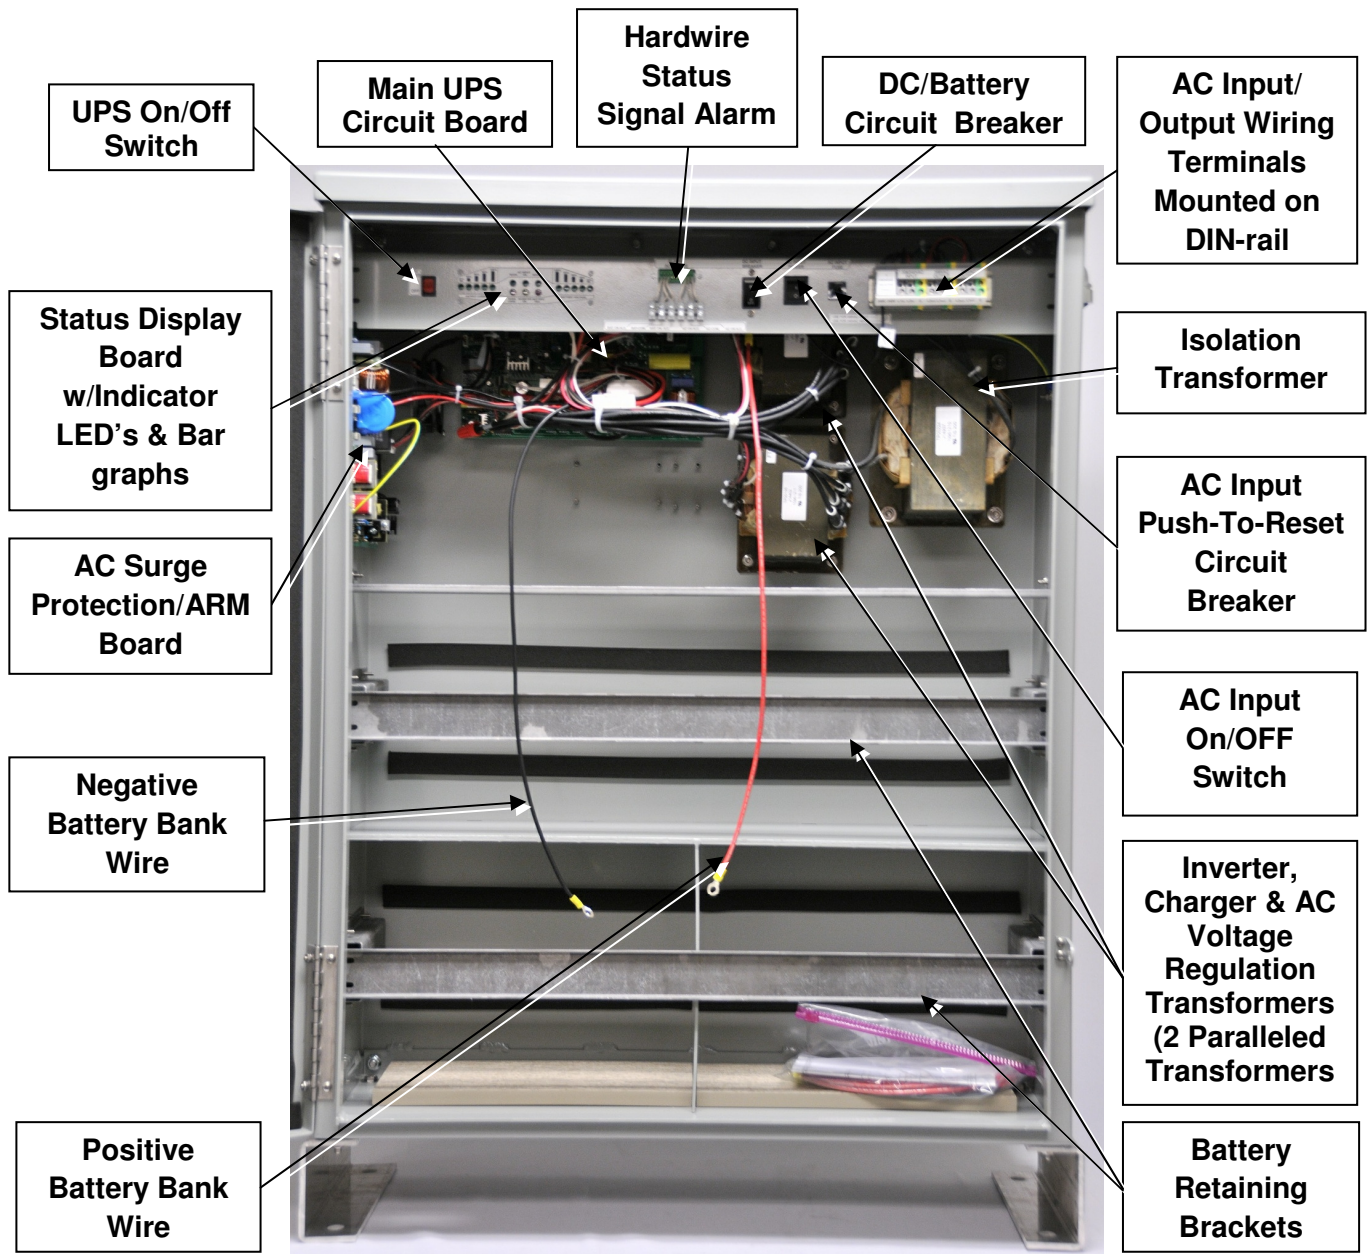

Figure 3: Electronic/Battery Compartment shown w/Door Open and w/o Batteries
1.7 FRONT ACCESS (Electronic/Battery Compartment) See Figure 3